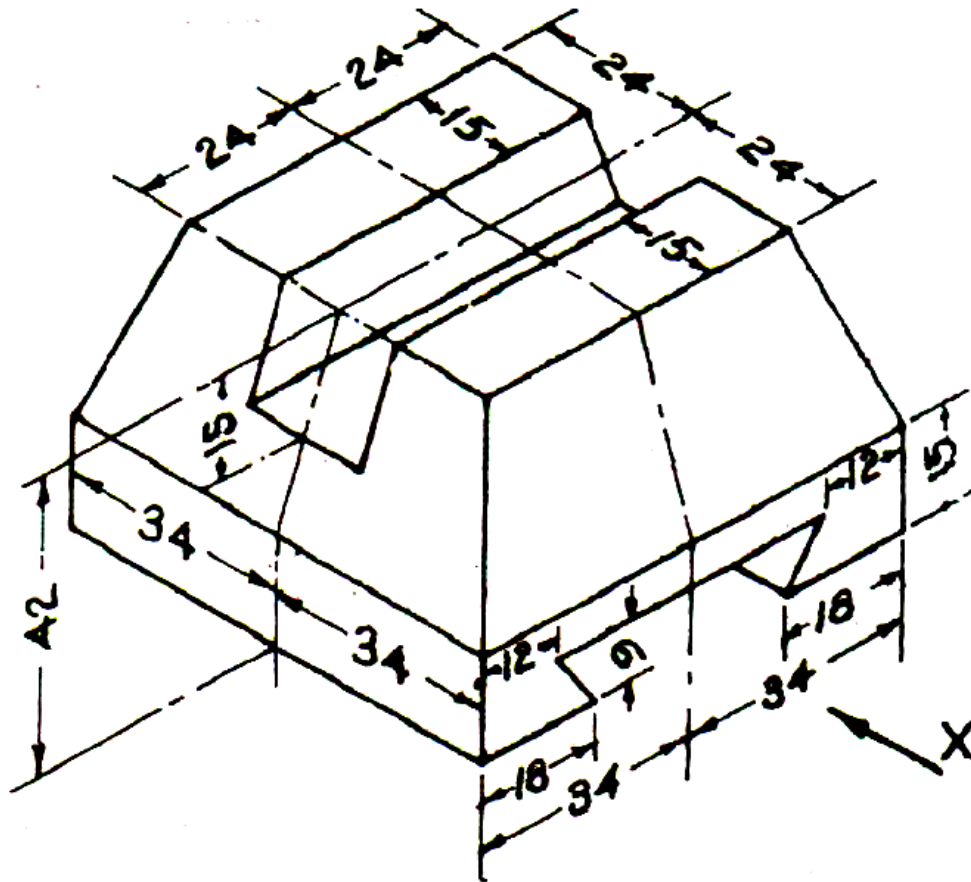

Figure 4
1. Draw the following View for **Figure 4**